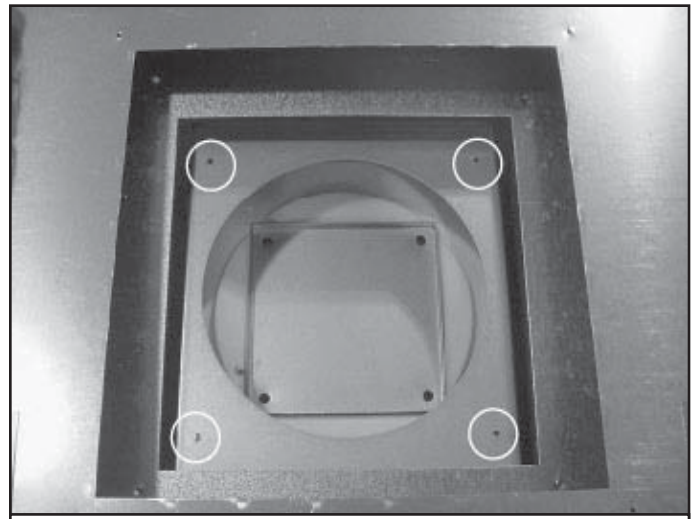

Figure 9.14 Inner Cover-Top
- Place inner cover plate on appliance top and replace four screws to hold inner cover plate in place. See Figure 9.14. Make sure gasket is replaced with the cover plate!